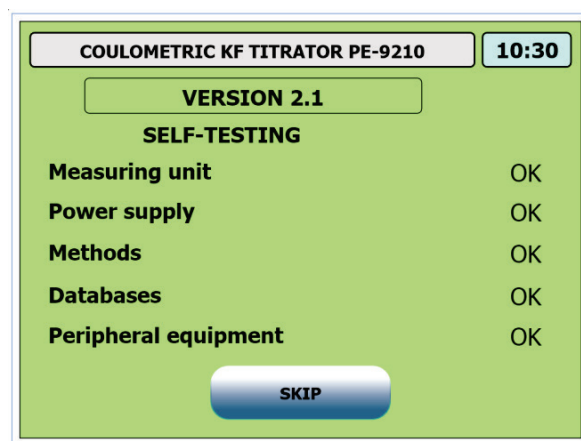

Figure 6
- Switch on the power of the titrator with a help of the switch “POWER”. A self-diagnostics process of the instrument will begin. The self-diagnostics procedure is shown on the display (Figure 6).